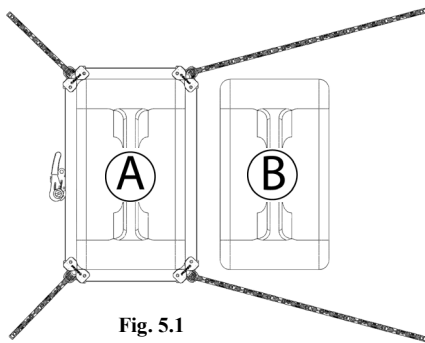

Fig. 5.1
- b. You will strap the mounting assembly to the lead generator (A), so the exhaust faces out under the long side of the GenTent offset to one side of the Canopy. (Fig 5.1)
- c. You will need to build the extender arms out as described in "**Assemble the Extender Arms**" in an off-set design where most of the Extender Arms are built out to accommodate the companion generator protection. (Fig 5.1) This usually takes 2 Extender Arms on each of the short side corners and 6 on each of the long side corners.
- d. You have the Extender Arms in the desired 34"-36" L by 23"-25" W, you will place the parallel generator (B) between the Extender Arms (Fig 5.1)